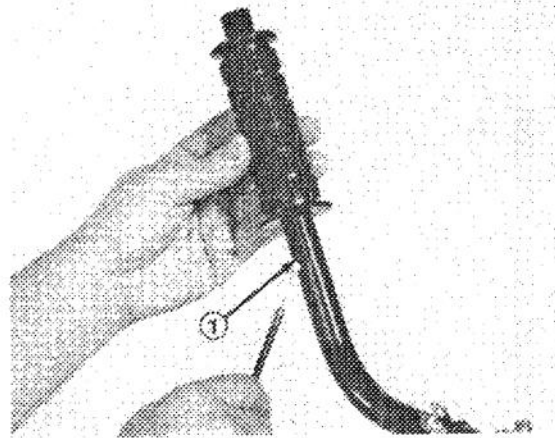

Figure 9
2. Insert cable into hole in handle and up through top of handle (Fig. 9).